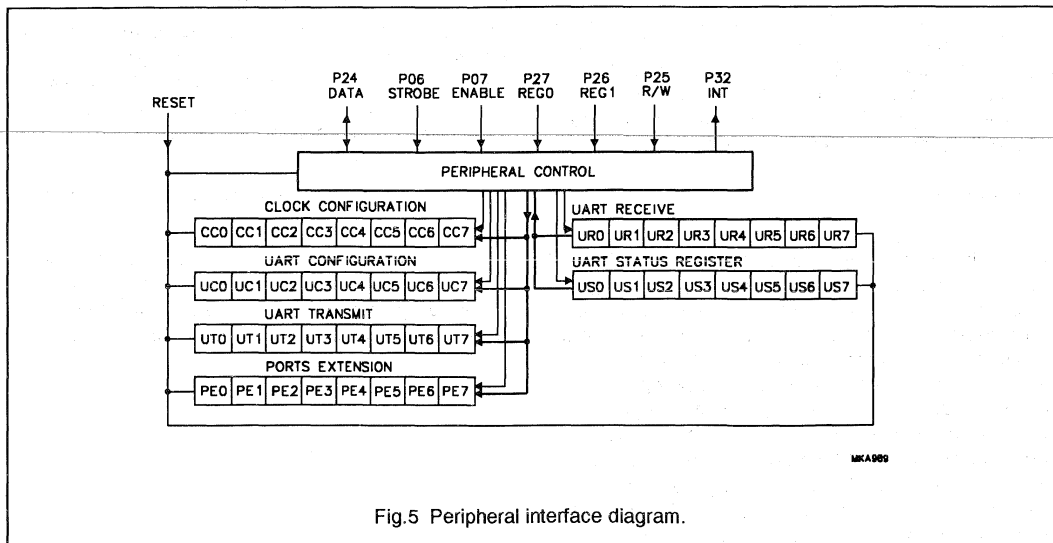

Fig.5 Peripheral interface diagram.
**Table 2** Description of Figure 5